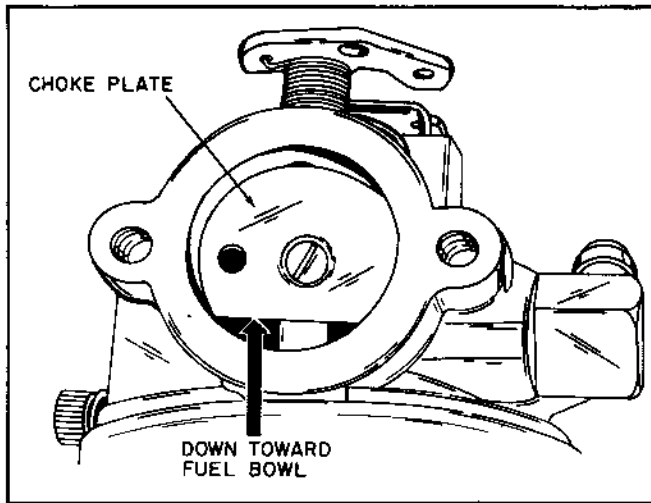
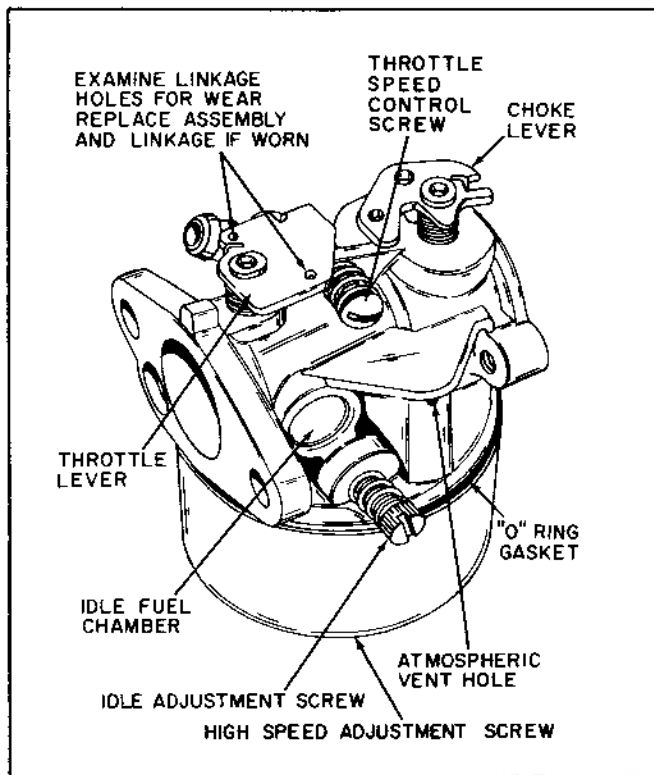

Figure 3-3. Choke Assembly
Figure 3-4. Lauson-Power Products Float Carburetor
D. CHOKER. Examine the choke lever and shaft at the bearing points and holes into which the linkage is fastened (Fig. 3-4), and replace if worn. The choke plate is inserted into the air horn of the carburetor in such a position that the flat surface of the choke (Fig. 3-3) is toward the fuel bowl. Record the choke plate movement. Choke plates will operate either clockwise or counterclockwise. Hold the choke shaft securely into the bearing bore when replacing the choke plate. This will prevent binding and excessive choke plate wear.